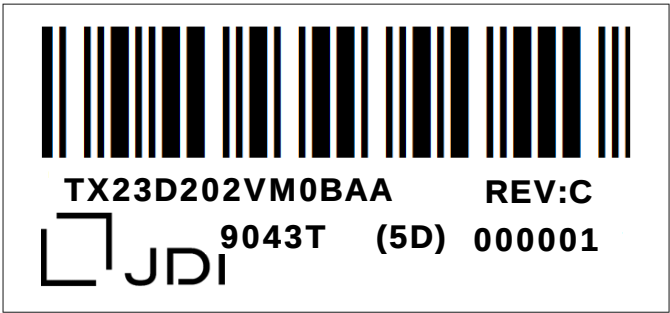

Fig 13.1
1) The lot mark is showing in Fig.13.1. First 4 digits are used to represent production lot, T represented product of JDI Taiwan, and the last 6 digits are the serial number.
4) The location of the lot mark is on the back of the display shown in Fig. 13.1.